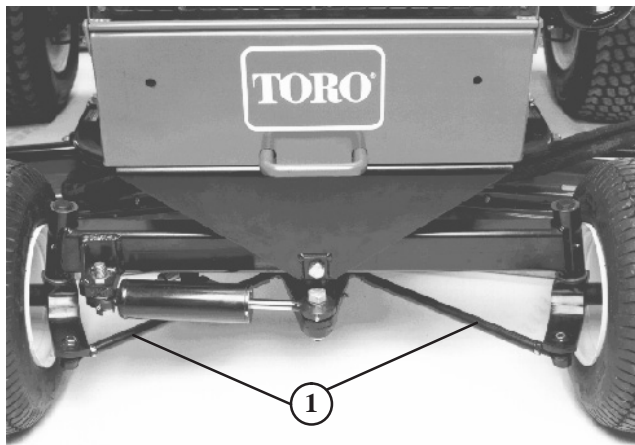

Figure 69
- Loosen the jam nuts on both tie rods (Fig. 69). Adjust both tie rods equally until center-to-center distance at front of rear wheels is 0–1/8 in. (0–3 mm) less than at the rear of the wheels.